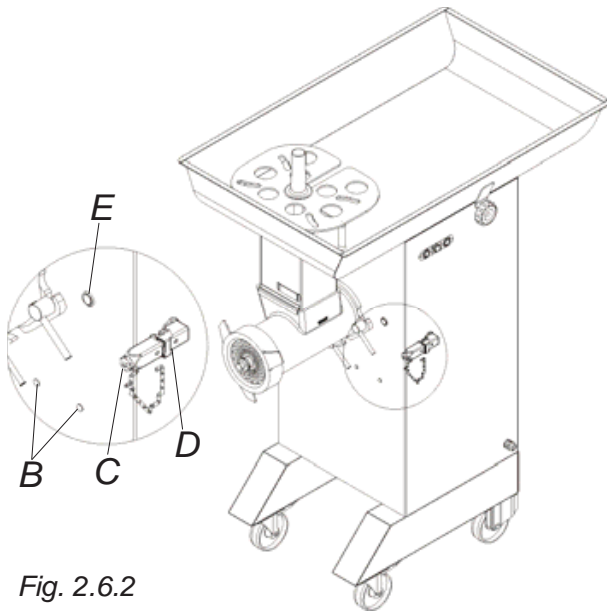

Fig. 2.6.2
- a male ILME connector coming out of the box that couples with its correspondent female (D fig. 2.6.2) present on the machine.
- an electric box (1b fig. 6.6.3) fastened onto the machine with two pegs (B fig. 2.6.2);
Once you are done using the accessory, to ensure standard machine operation, it is important to place cap C back in its seat as shown in figure 2.6.2.